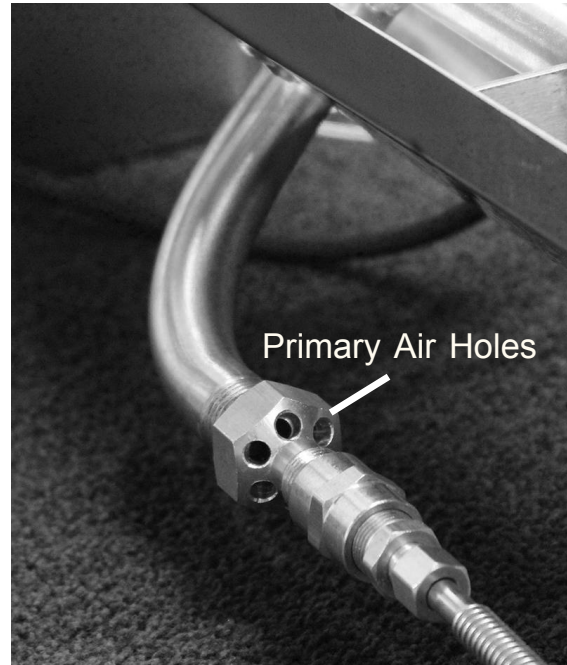

Figure 10 - Air Mixer/Injector on Burner Tube (propane models only)
3. Blow air into the primary air holes on the injector (see Figure 10).